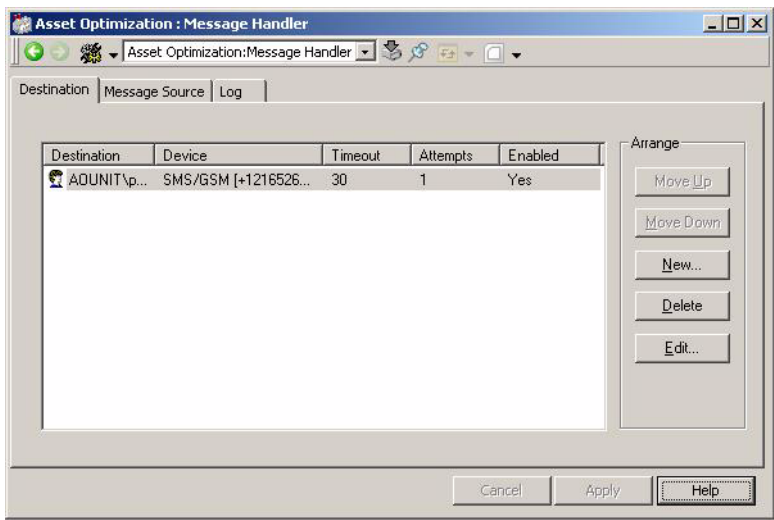

Figure 116. Message Handler - Destination Tab
8. Click the **Destination** tab. The view shown in Figure 116 appears with no destinations configured. The **Destination** tab allows for selection of the message destination (devices associated with user groups and/or users), whether or not those devices are enabled, time-out before resending the